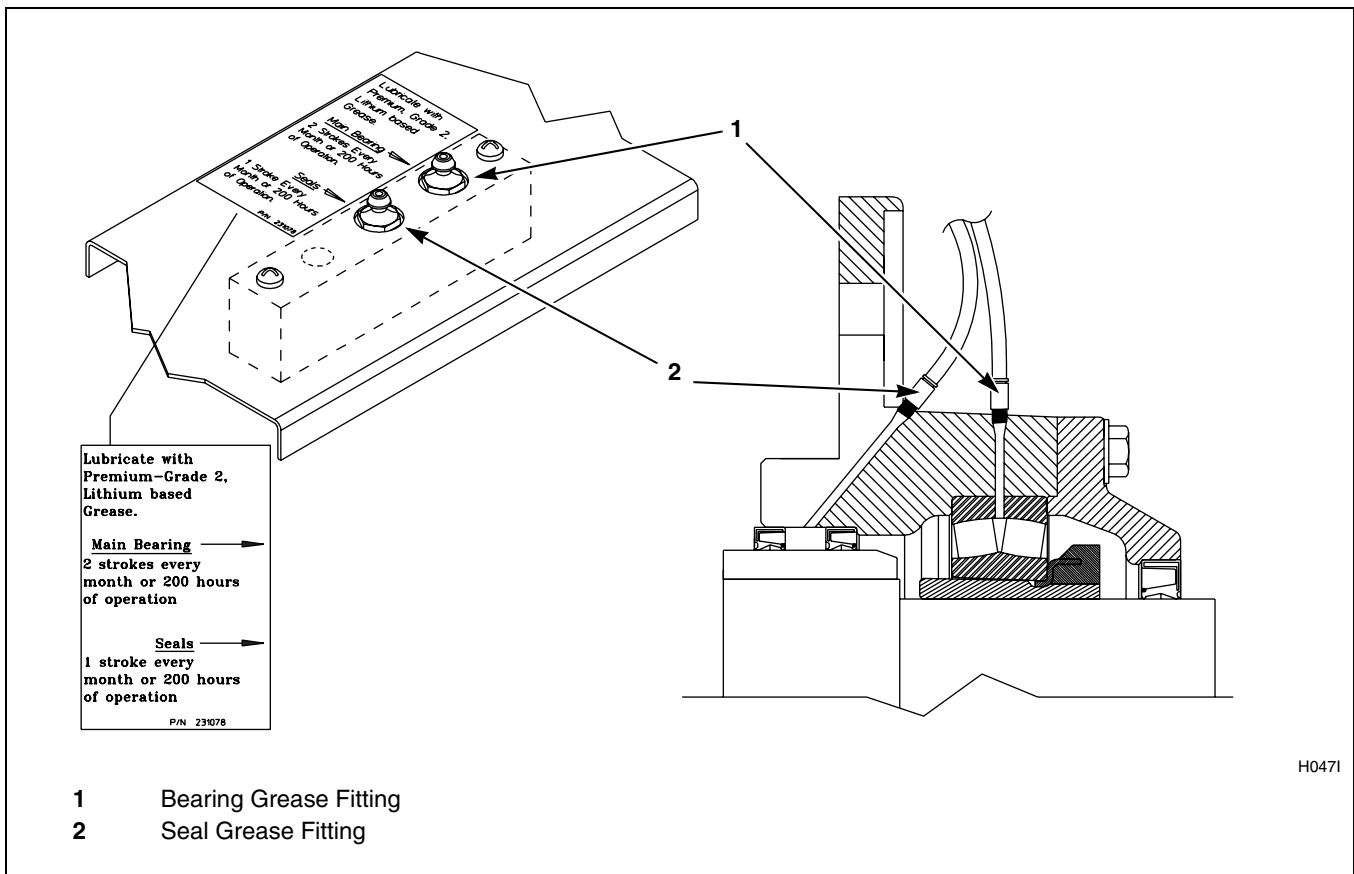

Figure 18
2. **For 80 pound capacity models only**, lubricate bearings and seals each month OR after every 200 hours of operation. Refer to *Figure 18*.